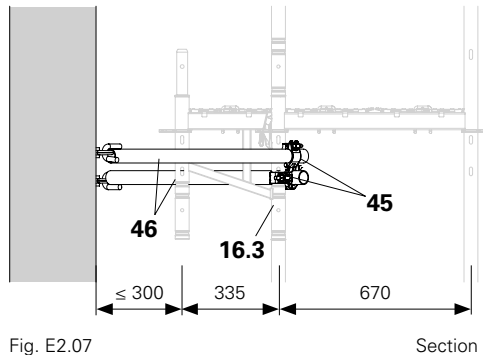

Fig. E2.07
Attach two Wall Ties UWT (46) below at approx. 45° to the ledger axis. Fasten both wall ties to the inner tube (16.3) of the Easy Frame EVF with standard couplers (48). (Fig. E2.07 + E2.08)